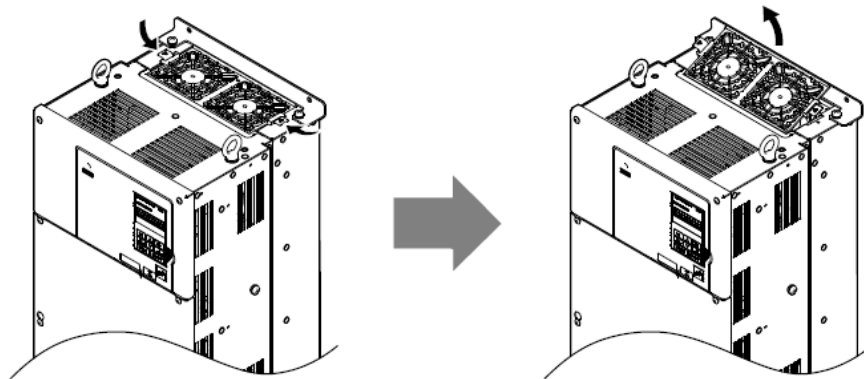

FIGURE 9-11 VFD Fan Finger Guard Removal
2. Depress the right and left sides of the fan finger guard, free the fan finger guard leading by lifting the back end first per Figure 9-11.